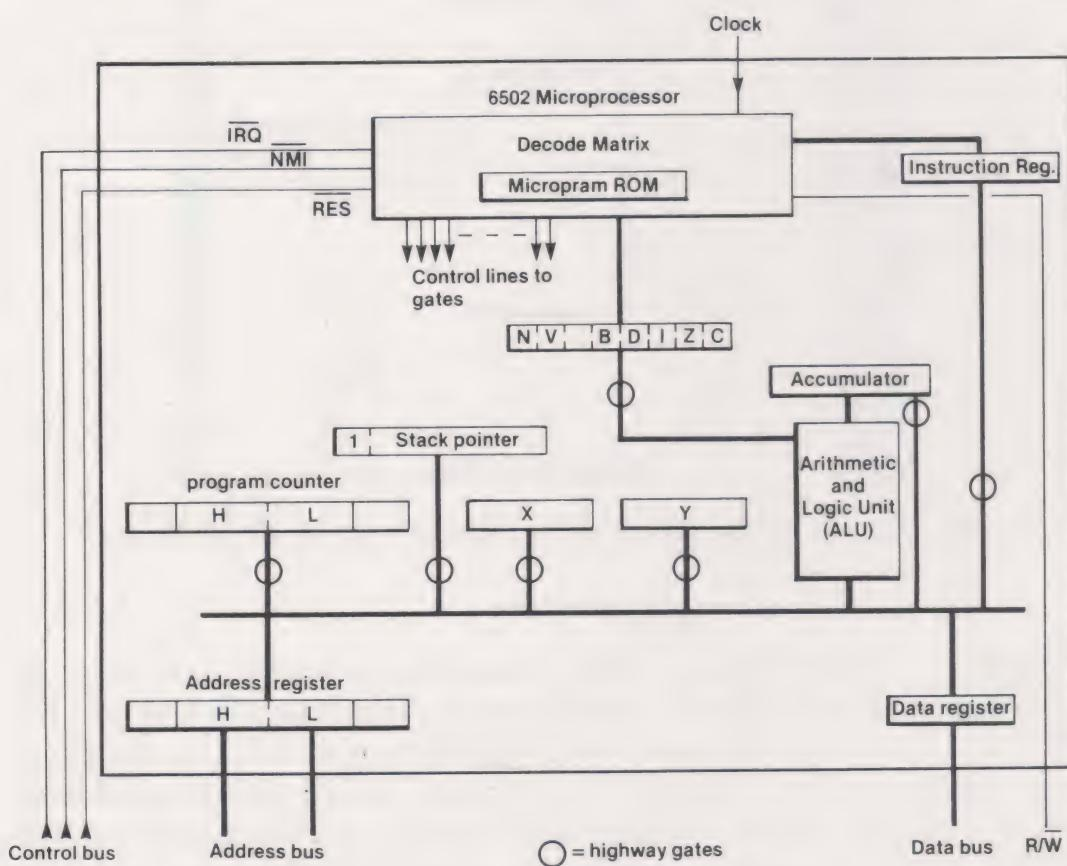

Fig. 2.2. 6502 registers and highways.
Figure 2.2 shows reasonable, but by no means complete, details of the paths between the various registers. Such paths within the microprocessor are often called *highways* because they ramify over the chip area to provide a kind of long distance communication.
This register has a supreme role. It is the only one capable of performing arithmetic processing. This is evident from Fig. 2.2 which shows that, in addition to the usual connection to the highway, there is a direct and *exclusive* link to the Arithmetic and Logic Unit (ALU). It is involved in transfers to and from memory and acts as interim data storage during arithmetic and logic operations. For example, during a simple addition of two numbers (ADC), the first number must pass to the accumulator and is then 'entered' to a holding register within the ALU. The second number then enters A, the addition is carried out and the result sent back to A. Those used to scientific calculators in the Hewlett-Packard range will recognise the inherent Reverse Polish (RP) action.
In any microprocessor, some of the most important registers remain transparent (or at least translucent) to the programmer. That is to say, instructions are not provided which make direct reference to them. In fact, the more important a register, the less likely is the programmer allowed direct access. In the 6502, the unseen registers (refer back to Fig. 2.2) are the Program Counter (PC), the two address registers ADL, ADH and the Instruction Register (IR).
Figure 2.2 shows the decode matrix. Its function is to accept the op-code held in IR, decode it, and finally output a pattern of bits on the various gate and timing controls. This pattern will be different for every step in the microprogram. If this function is analysed carefully, we may come to the conclusion that the decode matrix will behave like a miniature computer with a number of fixed programs inside. We can relate IR to the 'program counter'. The op-code is only the starting address of the relevant microprogram. The 'words' read out from the ROM are the bit patterns supplying the various register gates and controls. These patterns will vary for each step of the microprogram. The gate controls are all hardwired to the various registers. This wiring is omitted from Fig. 2.2 to prevent an already complex diagram from becoming incomprehensible.